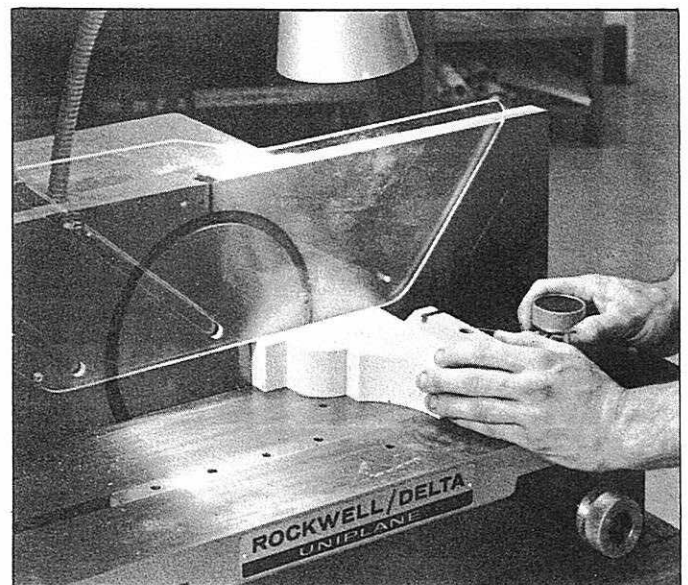

Fig. 41.
9. End grain can be cut satisfactorily. The results will vary depending upon the species of wood. Take a light cut and feed the material slowly. Always use the miter gage for small material, as shown in Fig. 41.